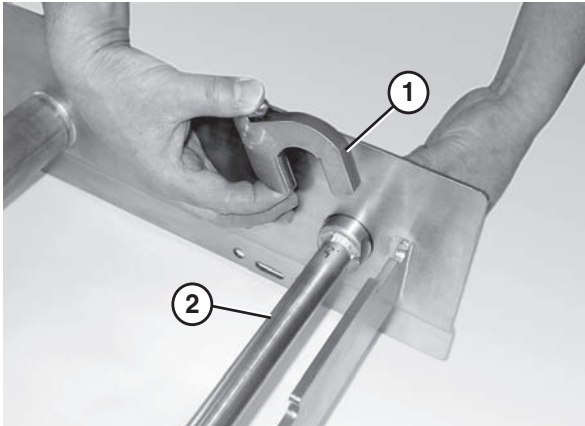

Figure 23
- Attach the key stops (**Figure 23, item 1**) to the tip up shaft (**Figure 23, item 2**). The rounded end of the key stop should face the tail.